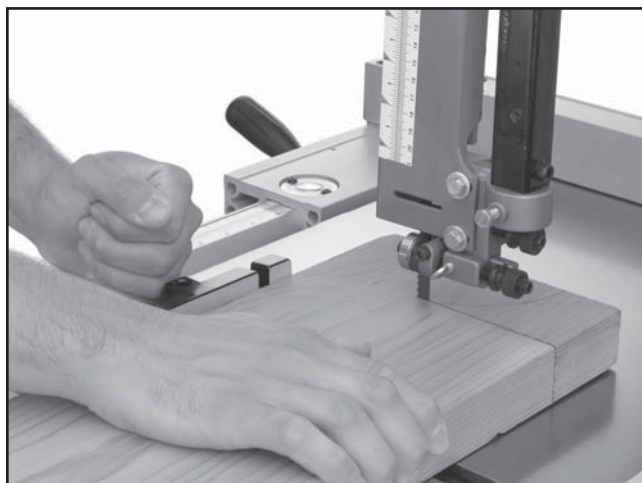

Figure 31. Crosscutting with miter gauge.
4. After all safety precautions have been met, turn the bandsaw ON. Slowly feed the workpiece into the blade and continue the cut until the blade is all the way through the workpiece. **Figure 31** shows a typical cross-cutting operation.